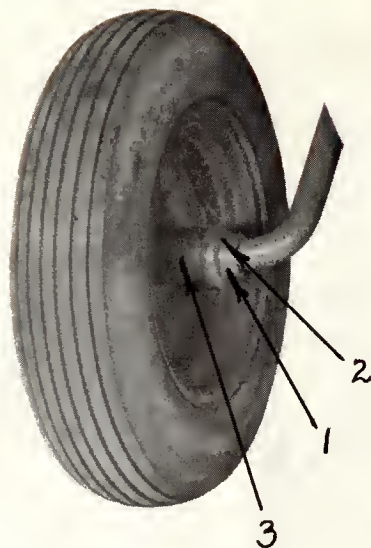

FIGURE 14
The sand band (1) Figure 14 is positioned on the axle as shown and attached by means of a roll pin (2) inserted through the sand band and axle.